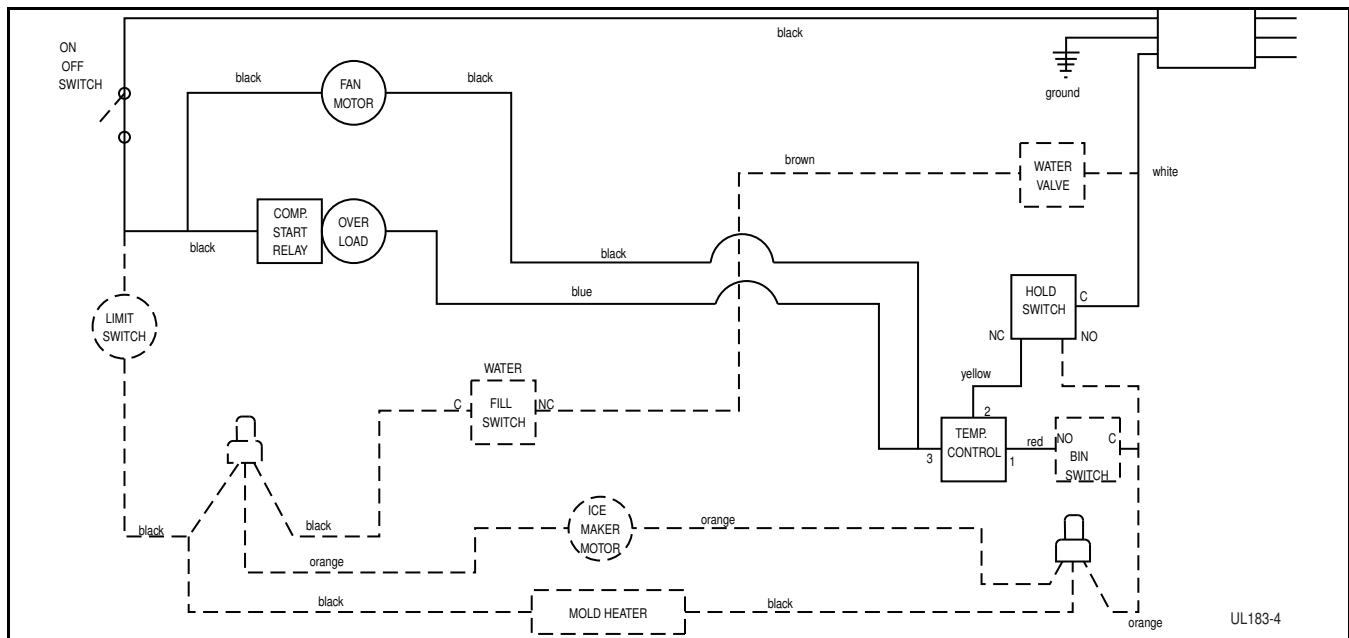

Figure 7. Freeze Cycle\
Freeze Cycle (Figure 7)
- ### Freeze Cycle (Figure 7)